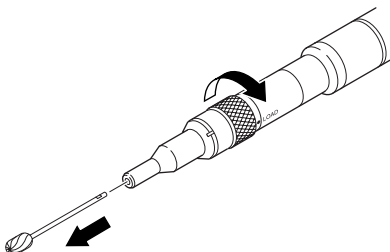

Figure 4. Cutting Accessory Removal
1. Rotate the lock collar to the LOAD position. See figure 4.